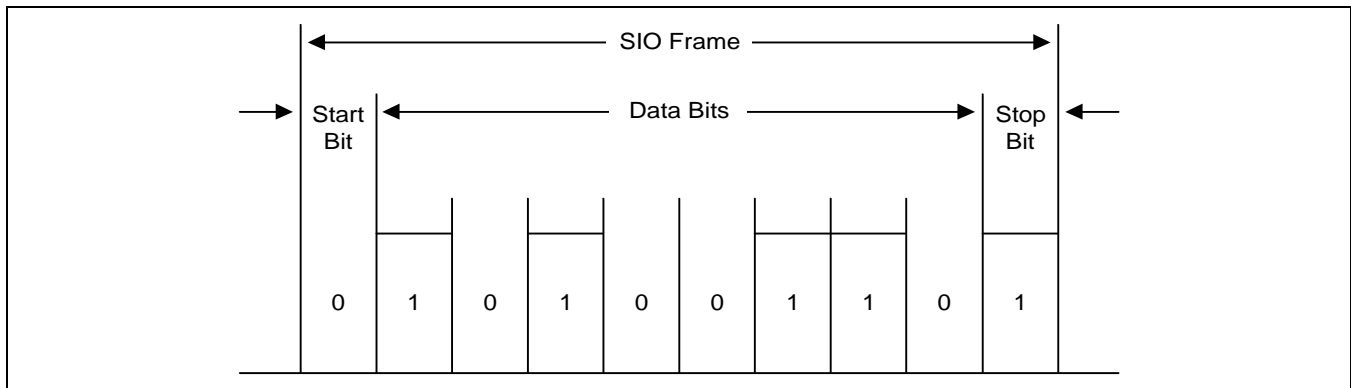

Figure 11-4. Serial I/O Frame Timing Diagram (Normal UART)
The S3C2440X UART block supports infrared (IR) transmission and reception, which can be selected by setting the Infrared-mode bit in the UART line control register (ULCONn). Figure 11-4 illustrates how to implement the IR mode.